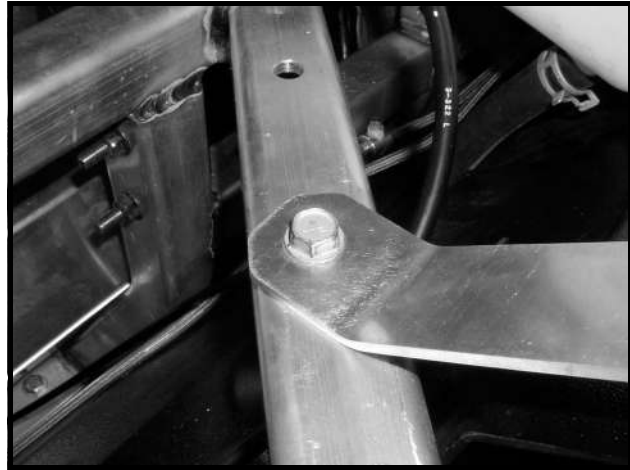

Figure 15-7 Radiator Bracket Rear Frame Mount
10. Remove the rear flanged bolts from the upper radiator mount bracket at the top of the frame (**Figure 15-7, Page 15-6**).
- 8.2. Install new bolts to secure the upper radiator mounting bracket to the frame (**Figure 15-7, Page 15-6**). Tighten the hardware to 9 ft-lb (12.2 N·m).